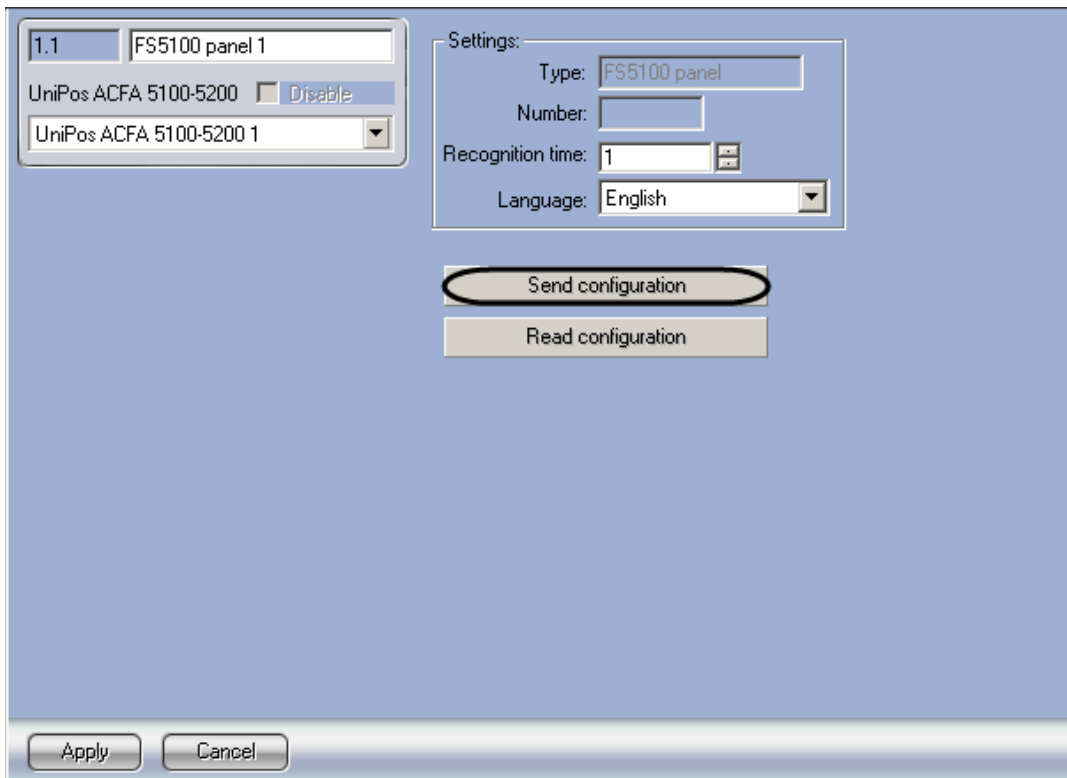

Figure 3.6—1 Configuration forwarding to *UniPos ACFA 5100-5200* devices
1. Go to the corresponding setting panel of the **FS5100/5200 panel** object (Figure 3.6—1).
2. To forward configuration to *UniPos ACFA 5100-5200* devices click **Forward configuration** (Figure 3.6—1, **1**).
3. To save changes click **Apply** (Figure 3.6—1, **2**).